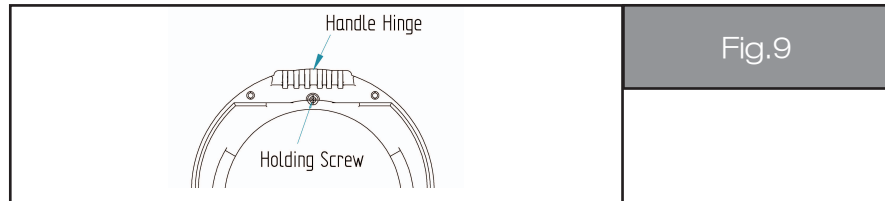

Fig.9
3. Remove holding screw (see fig.9).